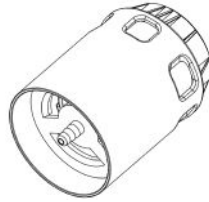

Figure 4. Weatherproof Housing
- b. Weatherproof Cap (Figure 4).